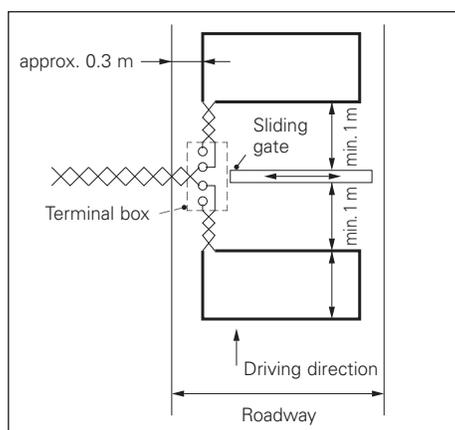

Fig. 7
- The distance to adjacent loops or movable metallic objects (e.g. sliding gates) must be at least 1 m (Fig. 7).